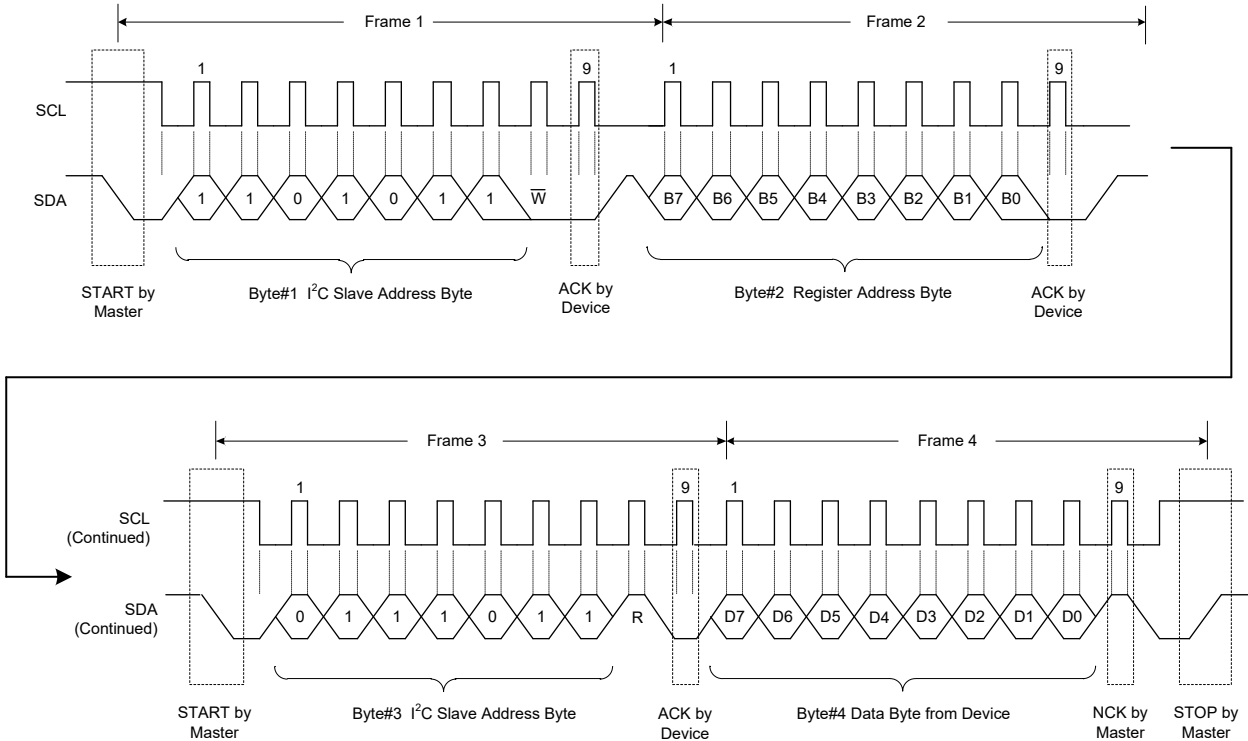

Figure 17. A Single Read Transaction
**READ:** If the master wants to read a single register (Figure 17), it sends a new START condition along with device address with R/W bit = 1. After ACK is received, master reads the SDA line to receive the content of the register. Master replies with NACK to inform slave that no more data is needed (single read) or it can send an ACK to request for sending the next register content (multi-read). This can continue until a NACK is sent by master. A STOP must be sent by master in any case to end the transaction.